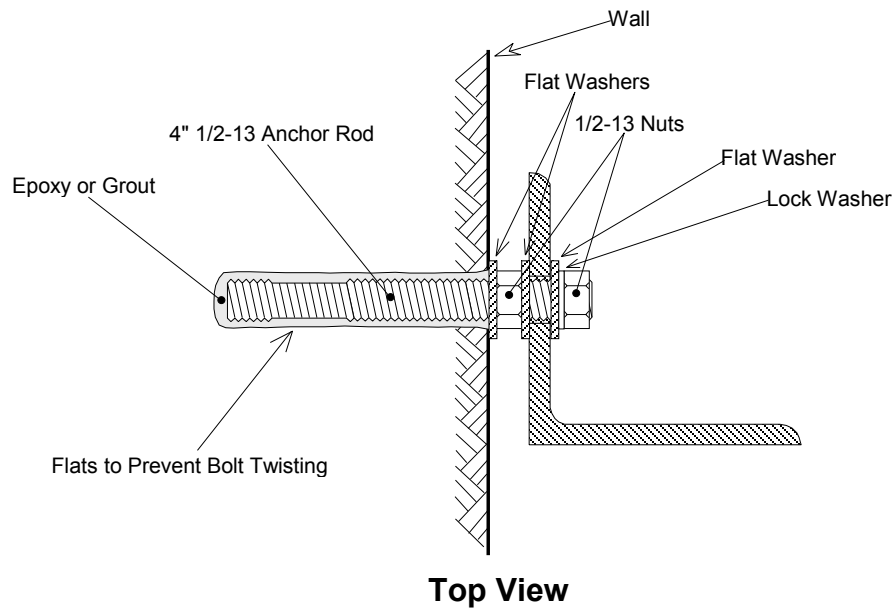

**Figure 4 - Drop-in Anchor Installation (Biaxial Mounting Bracket Shown)**
- 6) Attach the mounting bracket to the bolt using the supplied hardware, as illustrated in Figure 4.